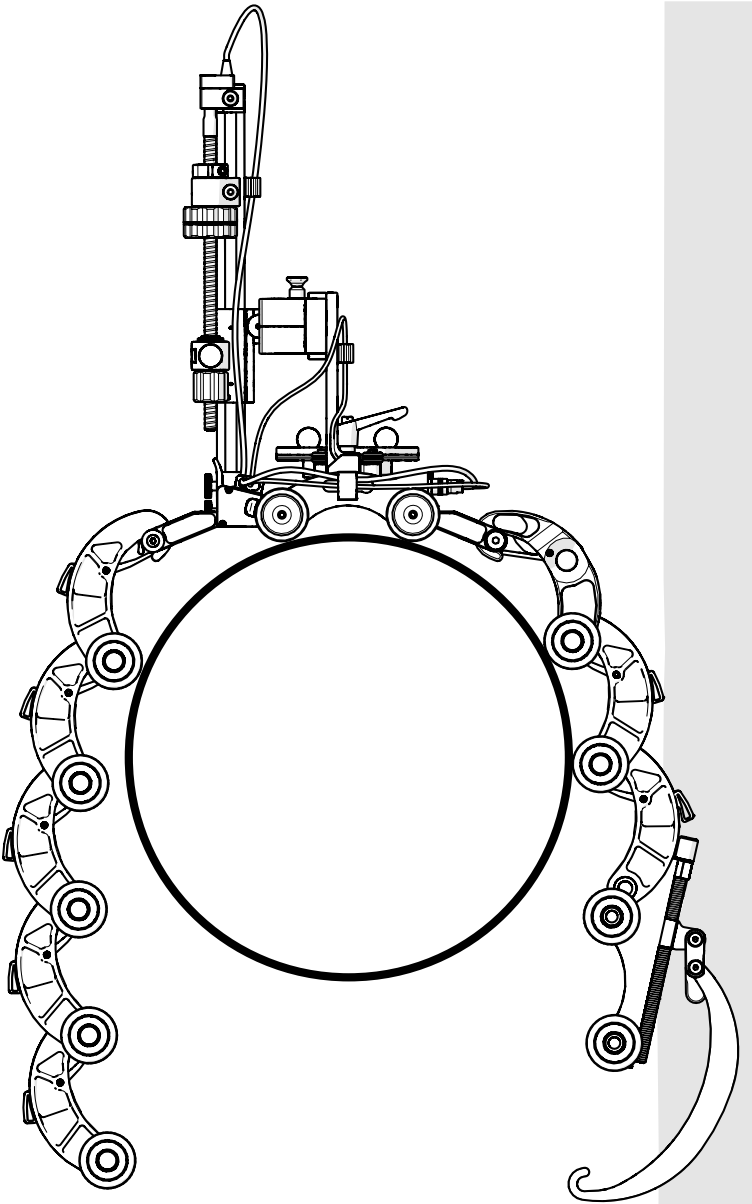

Fig. 90 - Place system on nozzle
- 5. Place the configured assembly around the nozzle to be inspected (*Fig. 90*).